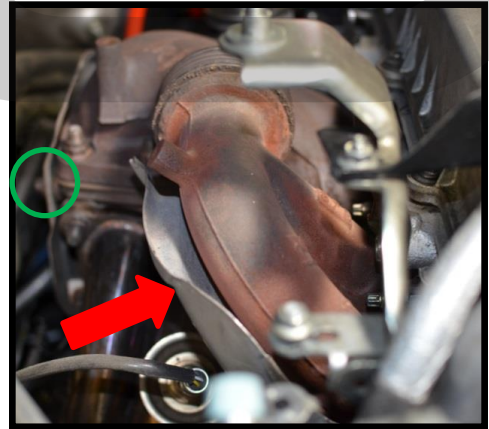
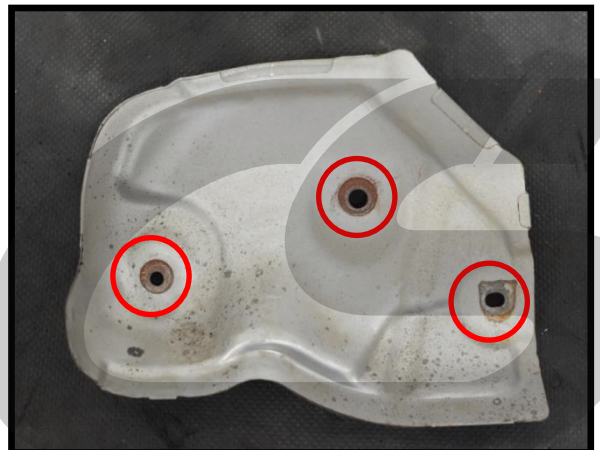

Figure 5b
Figure 5c
- c) Remove the three 8mm bolts holding the lower heat shield shown with the red arrow in Figure 5b and the red circles in Figure 5c. Then remove the heatshield.
- d) Remove the three 8mm bolt circled in green in Figure 5b. Then remove the heatshield.